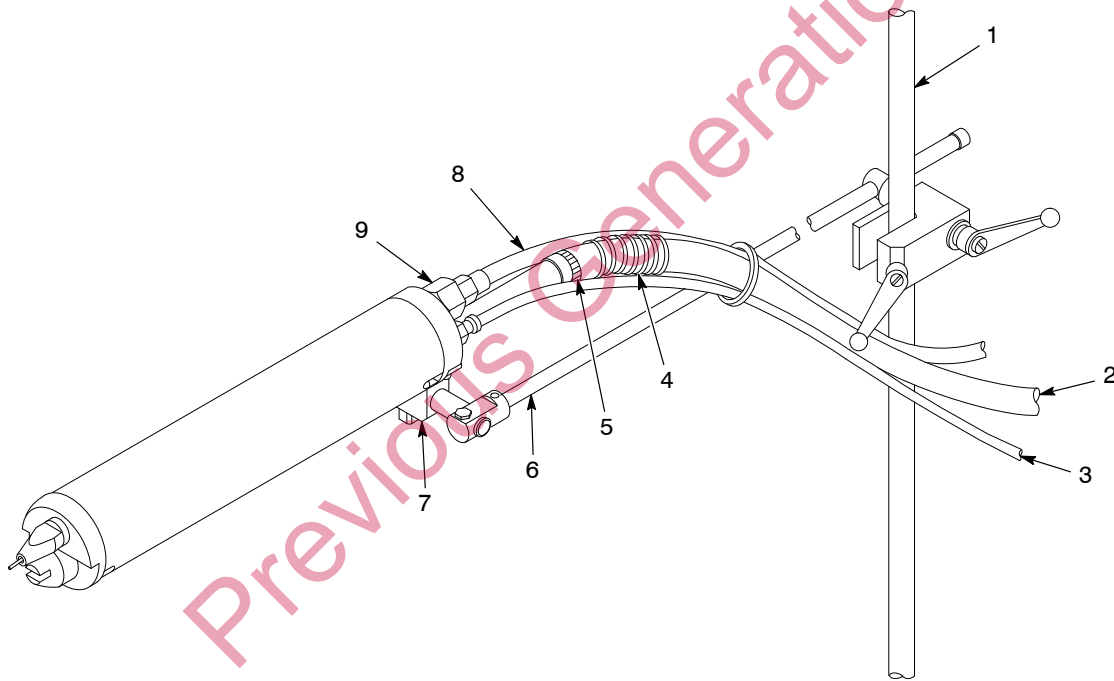

Figure 2 Gun Installation
See Figure 2.
Unpack the spray gun and install it on a gun mounting bar (6), gun stand, or reciprocator arm. The clamp on the gun mounting bar shown in Figure 2 is used with square or round bars (1) up to 25-mm (1-in.) in diameter.